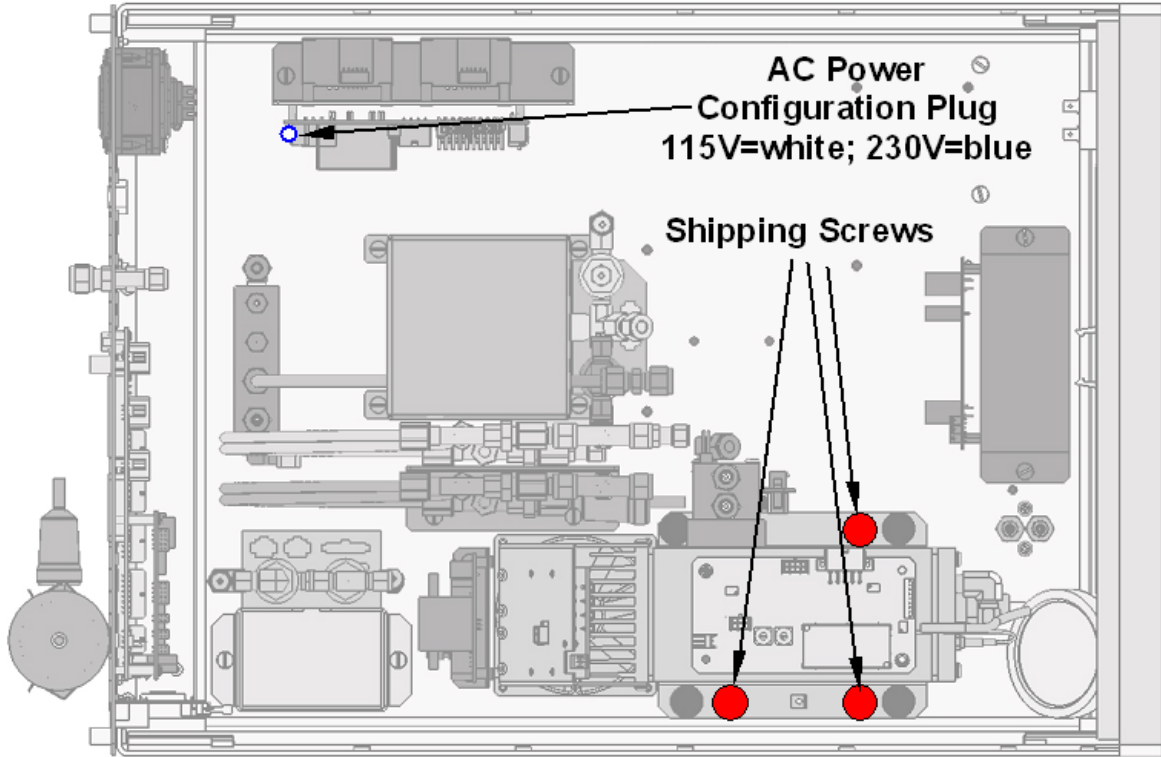

Figure 3-1: Location of Shipping Screws and Power Configuration Plug
- Once you have determined that no shipping damage exists and the unit includes all expected hardware options, remove three, red colored shipping screws from the bottom of the chassis, shown in Figure 3-1.
The TML41 analyzer can be configured for both 100-130 V and 210-240 V at either 50 or 60 Hz., To avoid damage to your analyzer, make sure that the AC power voltage matches the voltage indicated on the rear panel serial number label and that the frequency is between 47 and 63 Hz. Refer to Figure 3-1 to locate and identify the power configuration plug if necessary.
If you need to reconfigure your analyzer for one of the other voltage ranges, contact the factory for an optional power configuration jumper (shown in Figure 3-1)